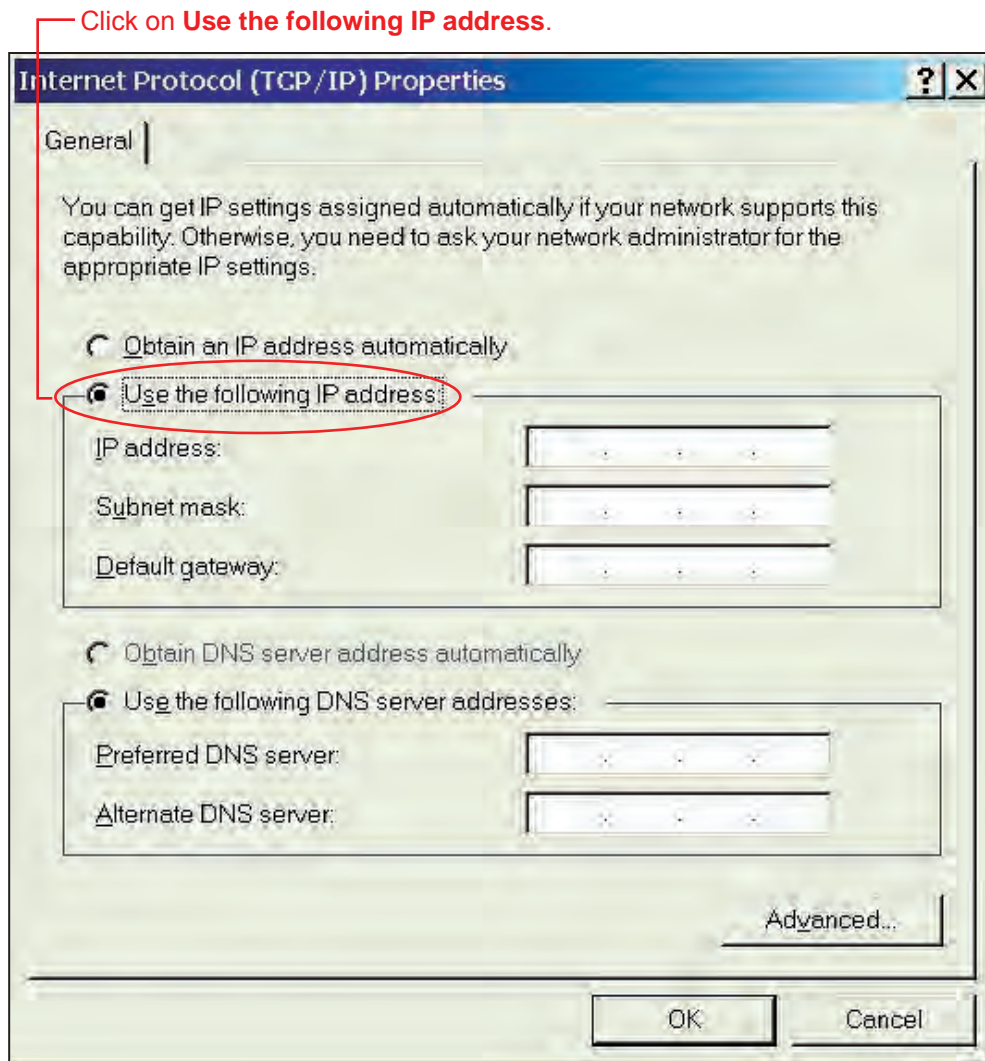

Figure 4-4. Selecting Use the Following IP Address.
6. **Obtain IP address automatically** is usually the default selection for most users (Figure 4-4).
7. If not already selected, click on **Use the following IP address** (Figure 4-4).